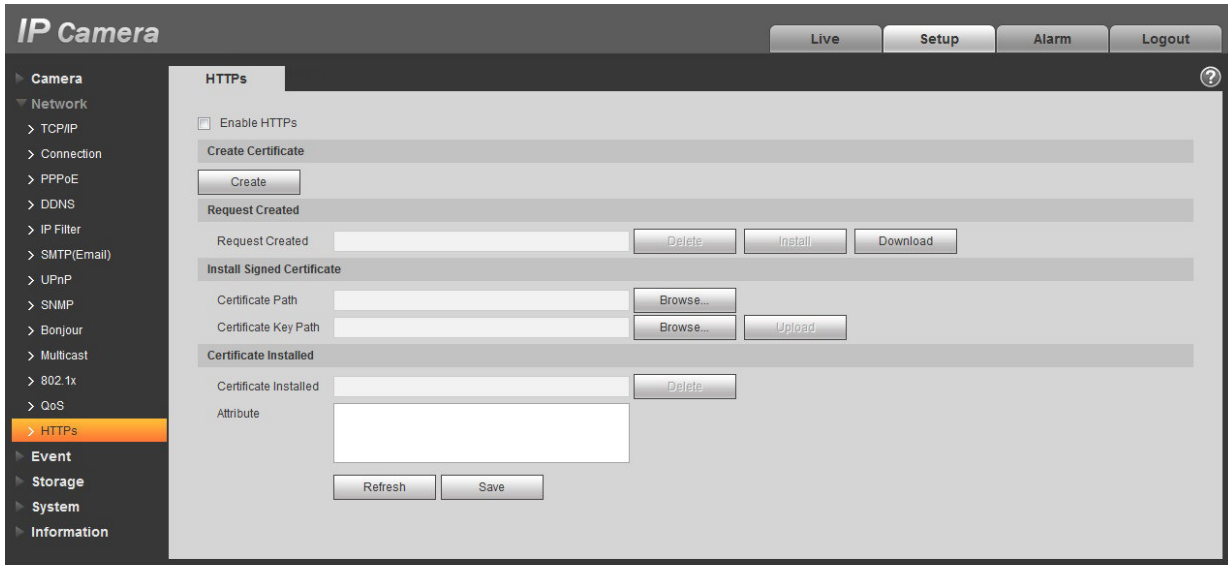

Figure 5-51
1. Select “Setup > Network > HTTPs”, and the system will display the interface of HTTPs, which is shown in Figure 5-51.